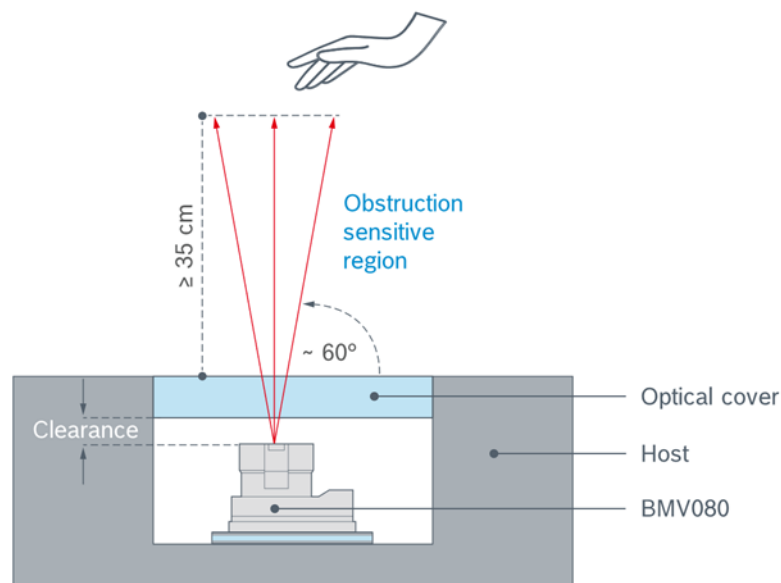

Figure 14: BMV080 integrated in a host system
- **Objects in front of the sensor (obstruction):** reflections caused by objects in the optical path can influence the sensor functionality. The BMV080 software detects these events as obstructions. While occasional obstruction (e.g., by waving hands) is filtered out in the BMV080 software and does not influence the sensor performance, static obstruction (i.e., a fixed object in the obstruction-sensitive region, see Figure 14) will influence the sensor functionality. When the BMV080 software detects a static obstruction, the PM_{2.5} calculation is not available, and an obstruction flag is returned. Therefore, static obstructions caused by the integration into the host shall be avoided.